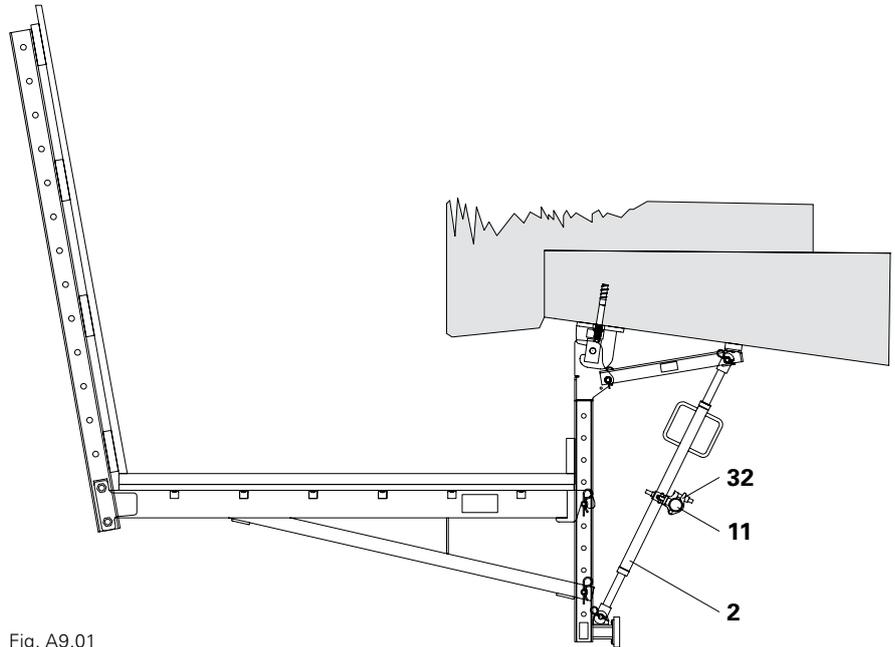

Fig. A9.01
1. Mount a Swivel Coupler RS 38/48 (23) at each Kicker AV (2) on the Spindle Sleeve.
2. Connect two Brackets respectively with a Scaffold Tube Steel $\varnothing 48.3 \times 3.2$ (11). (Fig. A9.01)